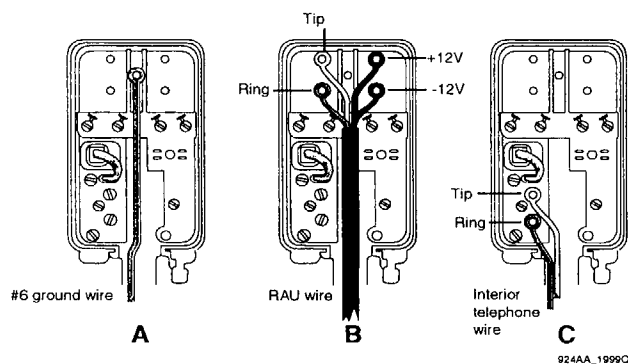

Figure 19. Junction Box - Wiring Detail
3. Connect the #6 ground wire to the ground lug in the junction box as shown in Figure 19, view A, on page 22.
4. Connect the RAU wire to the junction box as shown in Figure 19, view B. Refer to Table 6.
7. Junction box details are provided in Figure 19 on page 22.
8. Run 8-conductor 100 ohm unshielded twisted-pair wire, EIA 568 standard (not provided) from the junction box to the interior rooms where the telephones will be located. See Figure 19, view C on page 22. The wire distance between the junction box and the telephone farthest from the junction box should be no longer than 182 meters (550 feet).
3. Connect interior wiring to junction box as shown in Figure 19, view C on page 22.